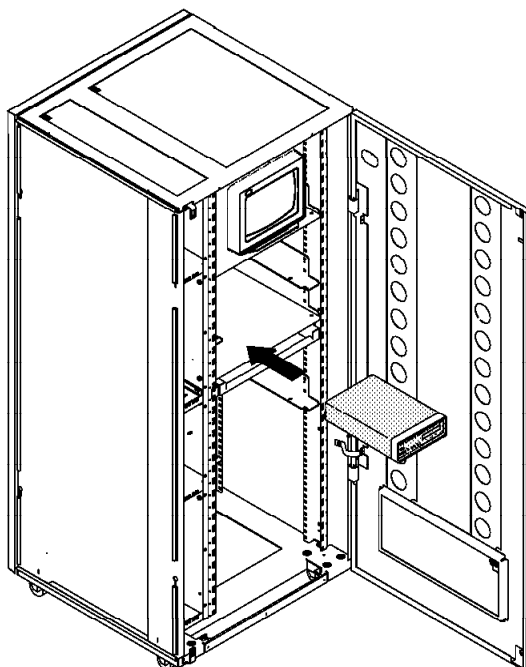

Figure 7. Installing the 7858 in the Controller Expansion
- 4. Slide the 7858 in the controller expansion as shown in Figure 7.